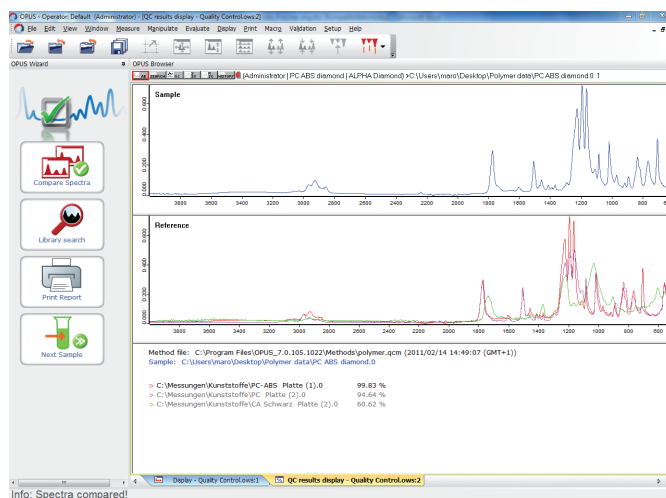

Figure 4: Comparison to several different spectra; hits below threshold (hit #2 and 3) are greyed indicating that only the first hit is correct.
2. If the question arises: „Is this sample a polycarbonate / acrylonitrile butadiene styrene-blend (PC-ABS), pure polycarbonate (PC) or cellulose acetate (CA)?“ a comparison against a set of polymer spectra that come into consideration is performed. To set up the method just the data path containing the files of the reference spectra has to be selected. The method results in a hit list, indicating those results that are within the desired correlation limit. Results below the threshold are greyed (see Figure 4). In the shown example, the sample clearly is assigned to be PC-ABS.